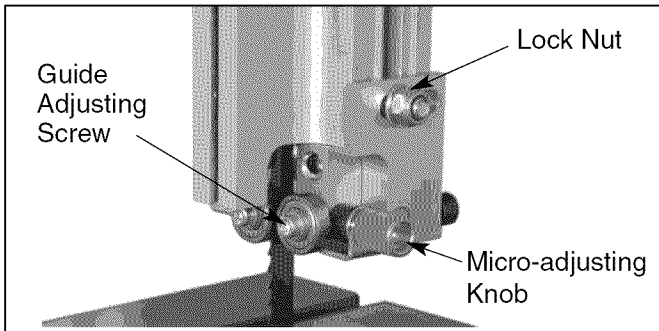

Figure 24 - Adjusting Blade Guides
Refer to Figures 24, 25 and 26, page 10.
- To adjust the upper blade guides, first position the right and left roller guides relative to the blade by loosening the lock nut (Figure 24) and moving the guide carrier until both roller guides are approximately $\frac{1}{16}$ " behind the gullets of the saw blade.
- Set both roller guides to within $\frac{1}{32}$ " of the saw blade by releasing the guide adjusting screw (Figure 24) on each side of the saw blade through turning the micro-adjusting knobs. Do not set the roller guides too close as this will adversely affect the life of the saw blade.